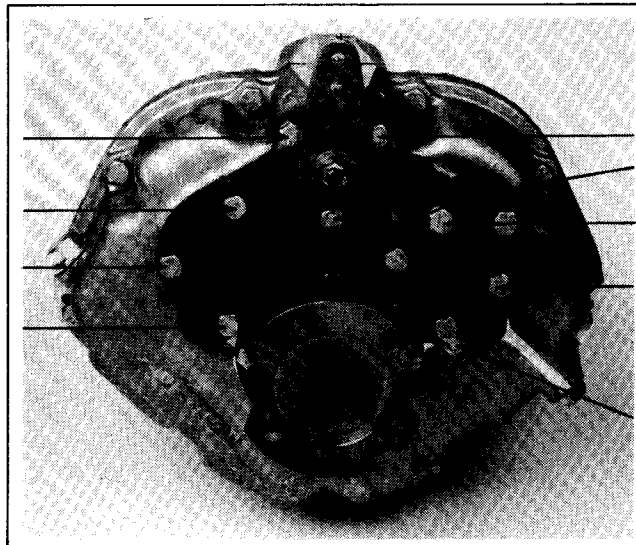

Fig. 11 Removal of bolts for emergency operation
1. Undo the 9 hexagon bolts securing the rear manifold to the gearcase and, taking care not to lose the small socket wrench which is located inside it, remove the manifold complete with oil pump. (See Fig. 11).